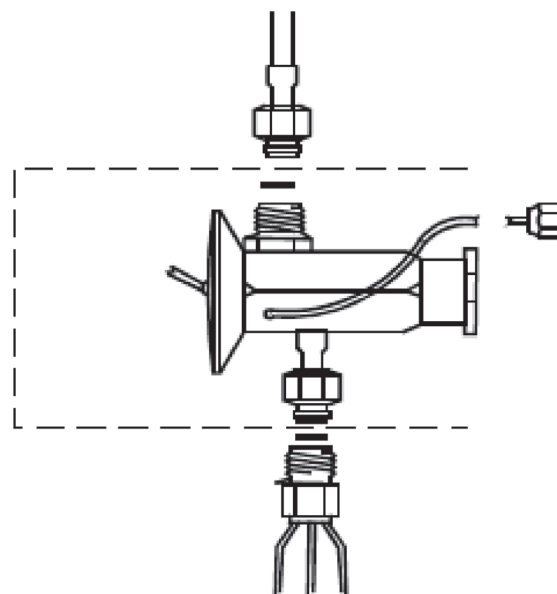

Figure 9: Typical TXV Connections
*With reference to the figure 9, the TXV assembly is to be installed between the flowrator distributor and the existing liquid line attached to the flowrator distributor.*